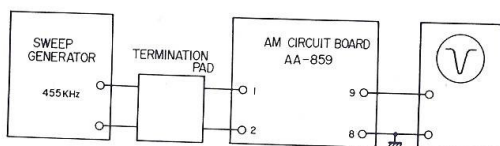

Fig. 12
- Connect the Sweep Generator output lead to test point (1) and (2) of the AM-IF circuit board (AA-859). Connect the oscilloscope input lead to test point (9) and (8). (Fig. 12).